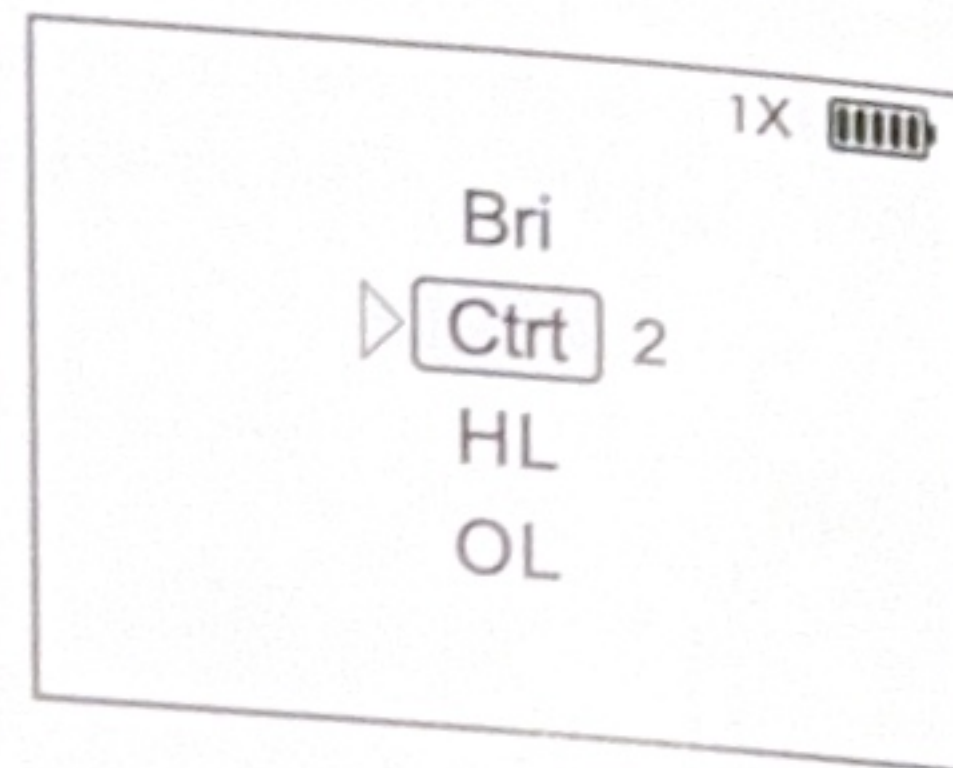

Fig 10
b. Contrast: From the IMG menu, press the  $\nabla$  button to enter the Ctrt (Contrast) function. Click the  $\square$  button to adjust Ctrt. There are 1 to 5 settings of Ctrt. Press the  $\Delta$  and  $\nabla$  buttons to adjust Ctrt. After selecting your contrast (Ctrt) setting, press and hold the  $\square$  button to return to the previous menu. (See Figure 10)